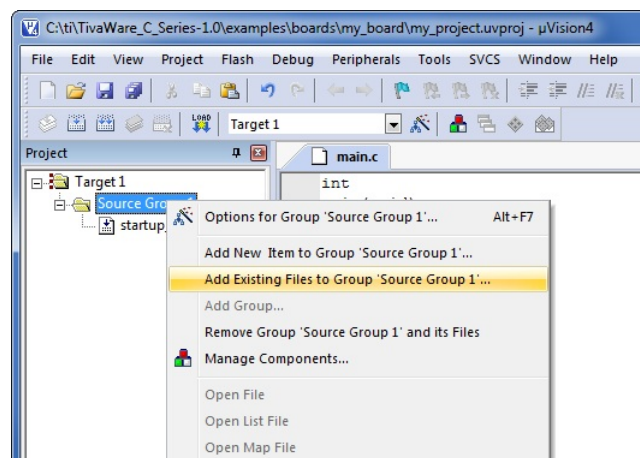

Figure 16.
6. Create a new file (from File → New...) and add a simple main function with a while(1) loop.
8. Right-click the Source Group 1 folder and select Add Files to Group 'Source Group 1' (see Figure 16). When the dialog box pops up to find the file, browse to your project directory and select main.c.